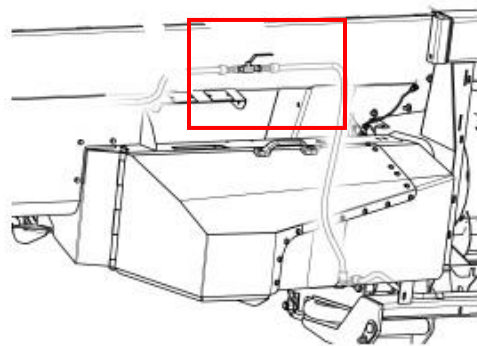

Figure 211
4. The shut off valve in the line to the subframe airbags should remain open when the header height control is used. Figure 211